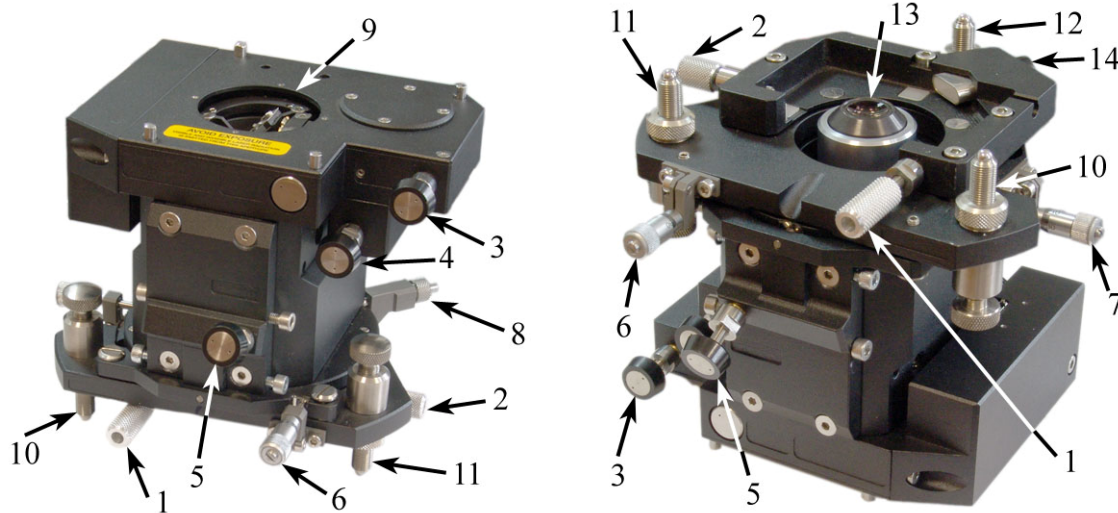

Fig. 2-8. Measuring head
Main components of the AFM optical measuring head are shown in Fig. 2-8.
The main functional component of the measuring head is the **Mitutoyo M Plan Apo 100** lens (pos. 13 in Fig. 2-8). The numerical aperture of the lens is 0.7 and the focal length is 2 mm while the working distance is 6 mm. The lens provides the the following options along with conventional AFM scan techniques: